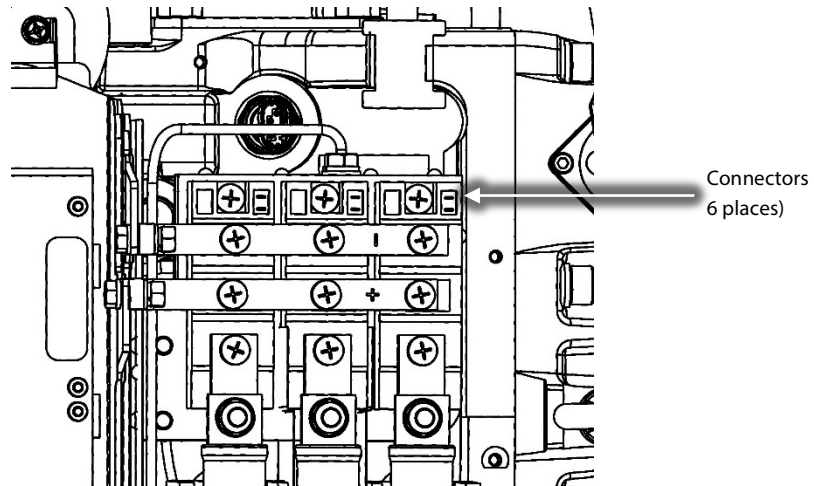

Figure 6 – Soft Start SCR Gate Cable Harness Removal
15. Disconnect the two (2) SCR Gate connectors from each rectifier. Refer to Figure 6 (Soft Start SCR Gate Cable Harness Removal) for the location of the connectors on the SCRs.